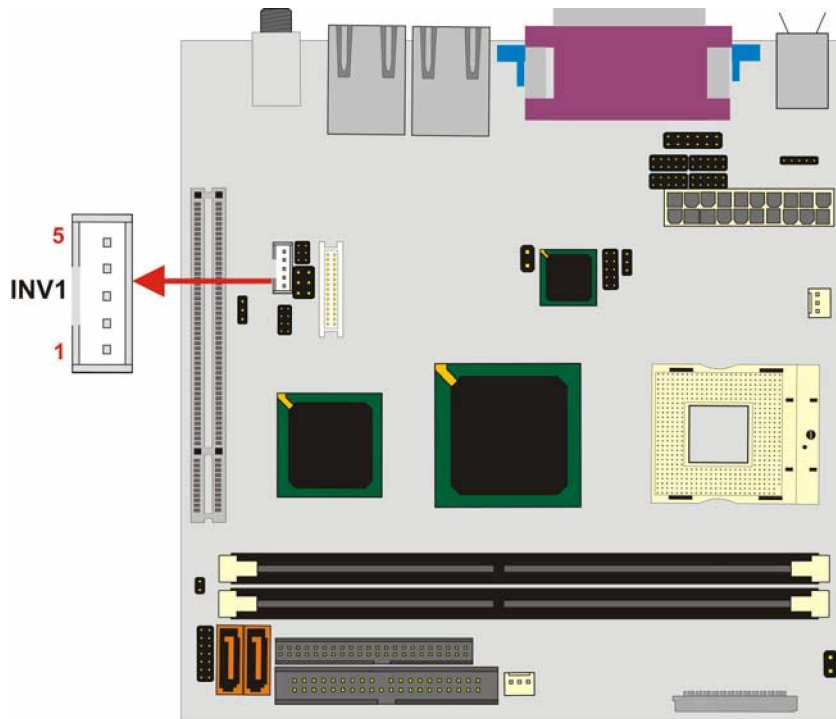

Figure 3-10: Inverter Connector Locations
- CN Location:** See Figure 3-10